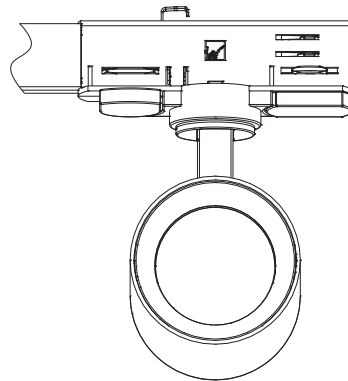

Fig.12
Step 5: Reinstall front cap back in place. Ensure torsion spring securely goes back into spring slot on fixture (See **Fig 12**)